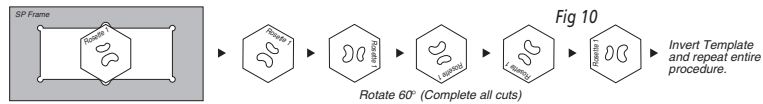

Fig 10
- Rotate plate to the next corner ie: 60° (Fig 10)